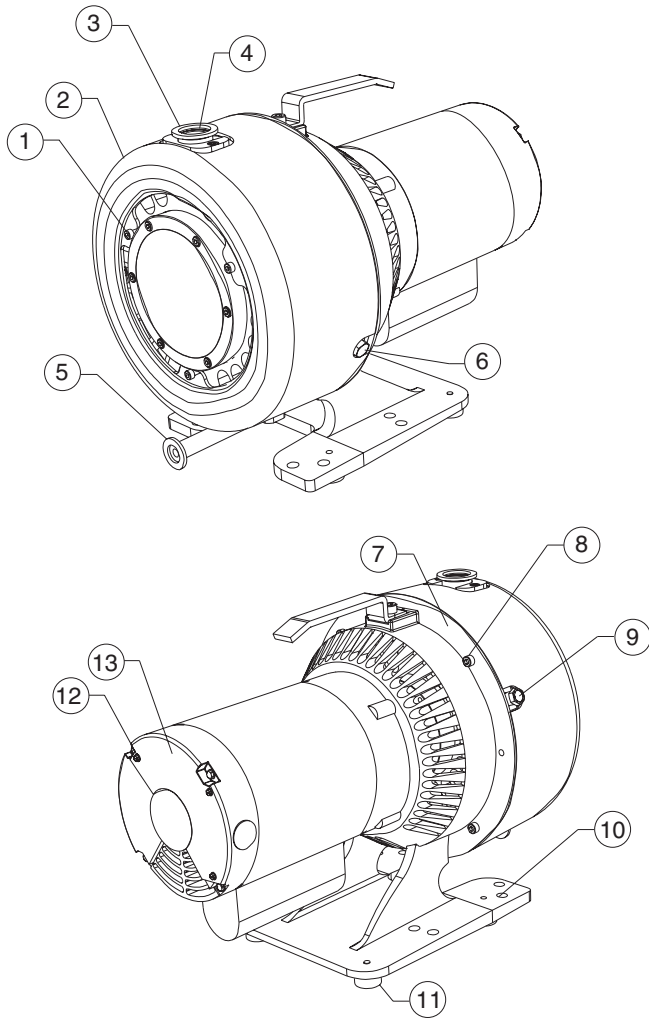

Figure 3 TriScroll 320 Vacuum Pump
2. Remove the three screws (item 12 in Figure 3 on page 5) that are holding the motor electrical cover (item 13 in Figure 3).
1. Remove three (3) M5 screws (item 1 on Figure 3 on page 5) that secure the cowling (item 2 on Figure 3) to the scroll module. Remove the cowling.
3. Remove the four (4) M6 screws (item 8 on Figure 3) holding the frame (item 7 on Figure 3) and scroll module together.
5. Rotate the module 90 degrees in either direction and realign the two (2) locating pins on the scroll module with the mating frame holes. Ensure that the rubber spider is still on the motor coupling and that the coupling teeth are properly aligned.
6. Rejoin the scroll module with the frame and install and tighten the four (4) M6 screws removed in step 3.
7. Reinstall the cowling using the three (3) M5 screws removed in step 1.
1. Remove the three screws (item 12 in Figure 3 on page 5) that are holding the motor electrical cover (item 13 in Figure 3).